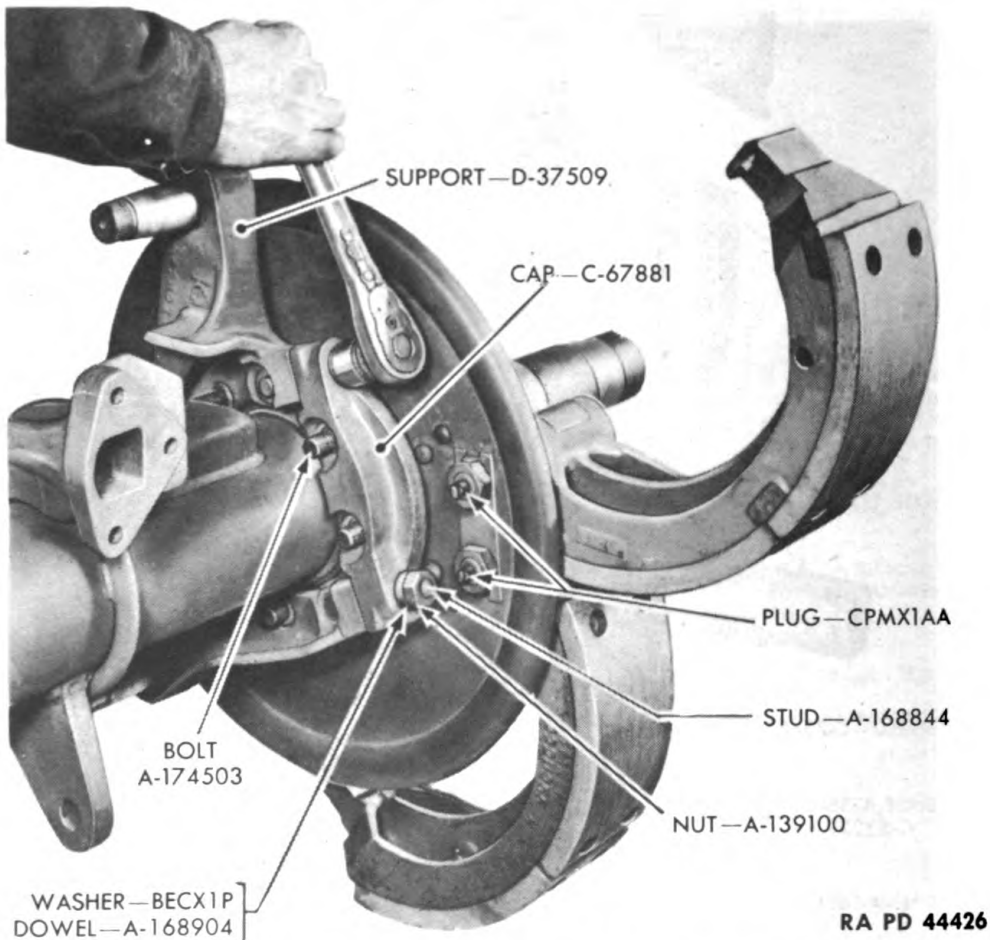

Figure 260—Disconnecting Bogie Axle Support
(2) Remove plug CPMX1AA closest to lower stud A168844. Loosen and remove nuts A139100 and washers BECX1P from two studs A168844 (fig. 260).
(3) Tap eight bolts out of shield and axle flange. Then screw plug CPMX1AA back in place loosely so it will not be lost.
(4) Tap wheel brake assembly off bogie straight axle with a copper hammer. NOTE: Bogie axle support assembly will remain loose on bogie straight axle.
(1) Tap support cap C67881 off studs A168844 and dowels A168904 (fig. 260). Lift axle support D37509 away from axle.
(2) Repeat procedure as described in step (1) above to remove other axle support from axle.